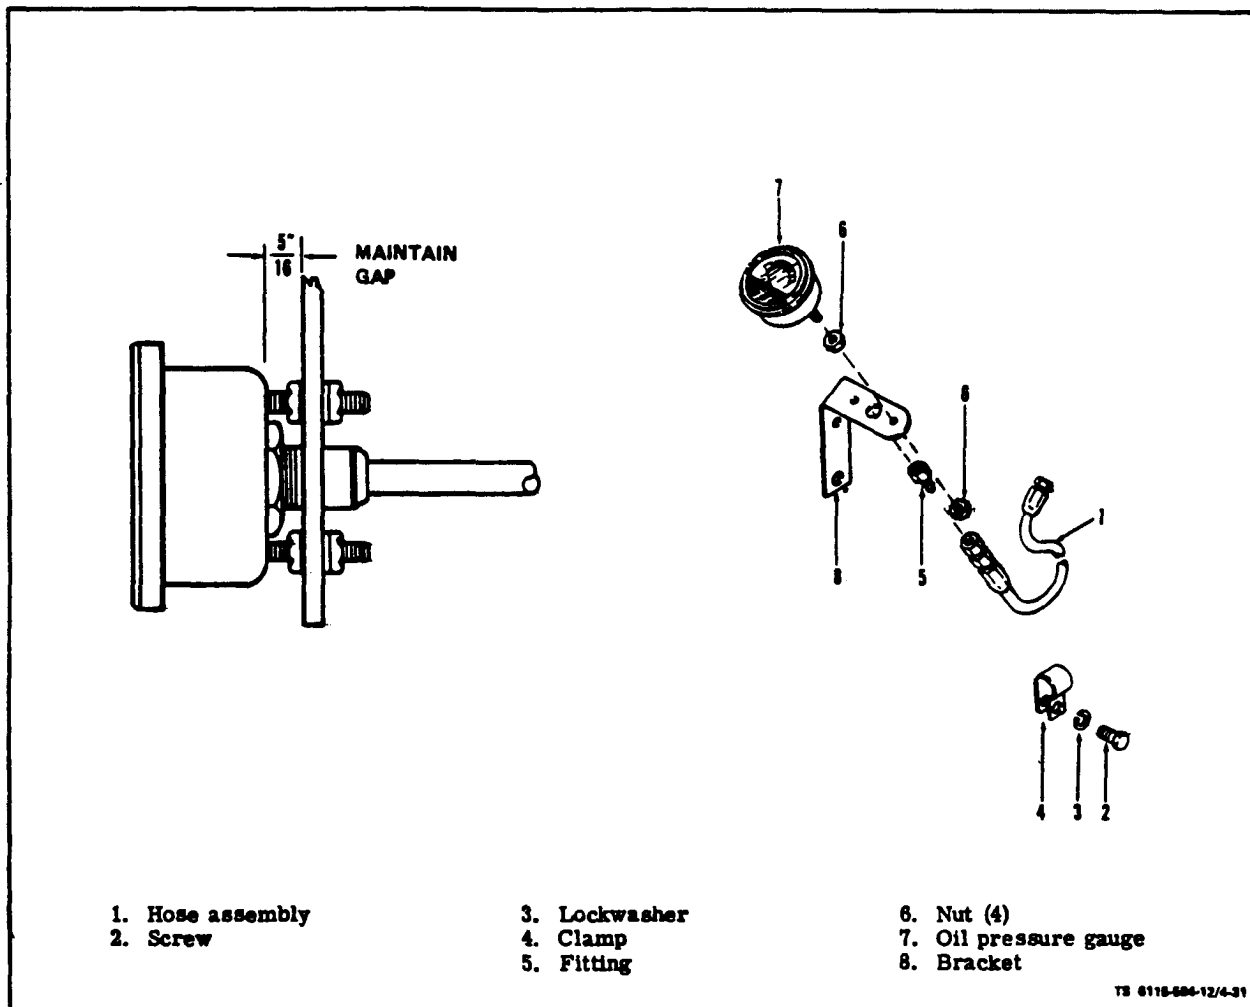

Figure 4-31. Replacing Oil Pressure Gauge
b. Remove (see figure 4-31). Disconnect and drain oil line (1) top oil pressure gauge (7), Remove screw (2),
c. Replace. Install oil pressure gauge (7) on mounting bracket (8) with nuts (6) two on each side of bracket (8). Maintain gap between gauge and bracket as indicated on figure 4-31. Position oil pressure gauge and bracket on engine and install clamp (4), lockwasher (3) and screw (2). Connect and tighten oil line (1).